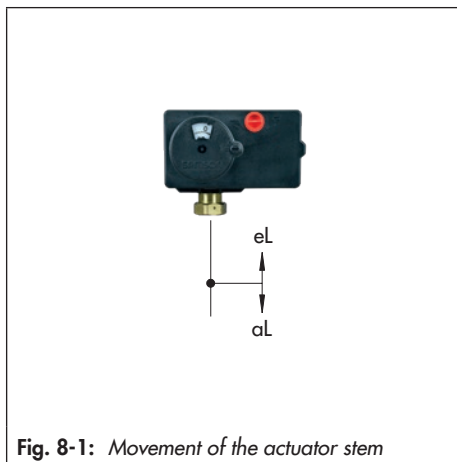
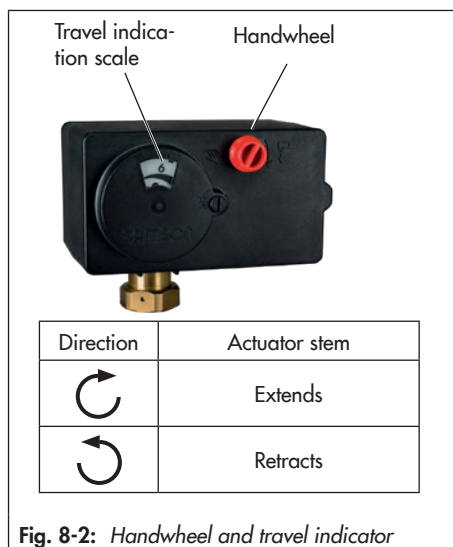

Fig. 8-1: Movement of the actuator stem
Fig. 8-2: Handwheel and travel indicator
In three-step operation, the actuator stem is moved in the corresponding direction by applying a signal to the terminal eL or aL (see Fig. 8-1).
Travel and direction of action can be read off the scale of the travel indicator (see Fig. 8-2).
- Turn clockwise: the actuator stem extends (see Fig. 8-1 and Fig. 8-2).
- Turn counterclockwise: the actuator stem retracts (see Fig. 8-1 and Fig. 8-2).
- Turn clockwise: the actuator stem extends (see Fig. 8-1).
- Turn counterclockwise: the actuator stem retracts (see Fig. 8-1).